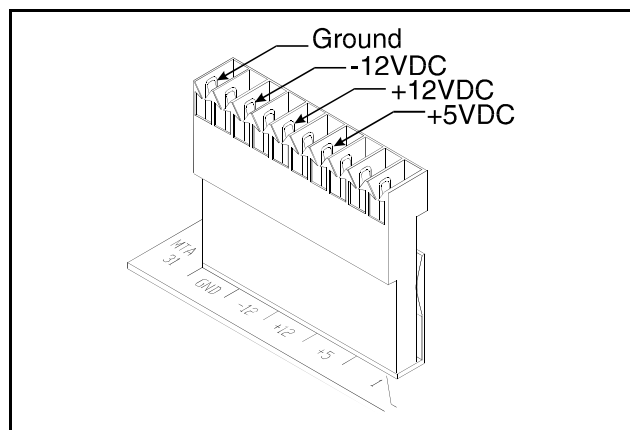
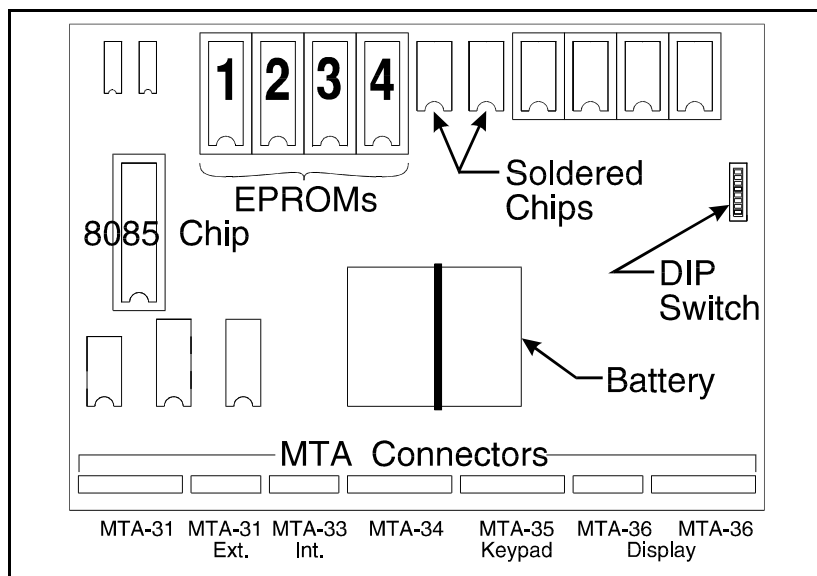

FIGURE 2 (MSSM0217AE)
FIGURE 3 (MSSM0217AE)
2. Locate the EPROMs as described in “Location of EPROMs on Processor Board” in this section. Note the orientation of the EPROMs as shown in FIGURES 3, 5, 7, and 9.
3. Slip a small flat tool underneath the EPROM, and carefully remove each old EPROM from its base, taking note of their numerical order (see FIGURES 3 and 7) and orientation to the key notch on the socket.
8085 Processor Boards, *NOT Coin Machine*—See FIGURE 3. Install EPROM #1 at the end of the row, then #2, #3, and #4. Chip #4 goes next to the two soldered chips on the board. See FIGURE 2 for where to check voltages.